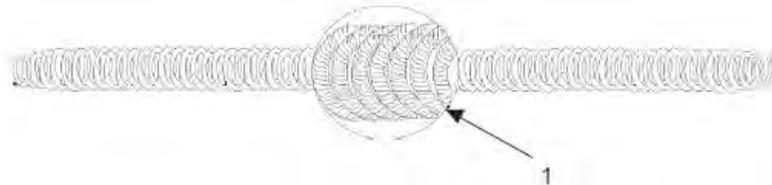

Figure 2. Drive Spring
5. Inspect drive spring (Figure 2, Item 1). Check for kinks, damage, flat spots, or broken strands. Replace spring if it has kinks, broken strands, or excessive flat spots or damage.